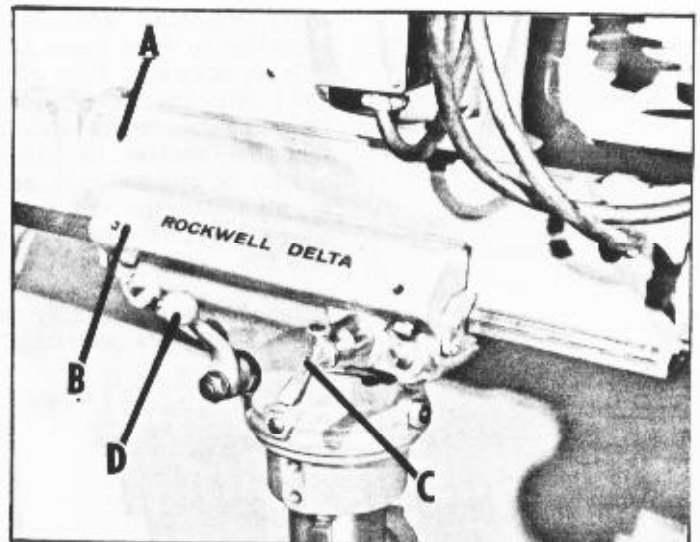

Fig. 16
The ram (A) Fig. 16, can be moved in or out in the carriage (B) to provide a maximum distance of 31" from the center line of the spindle to the column and a minimum distance of 13".
The ram (A) Fig. 16, will swing a full 360 degrees around the column for drilling anywhere on or off the table. To swing the ram, loosen handle (D) Fig. 16, rotate the carriage (B) to the desired angle and lock handle (D).